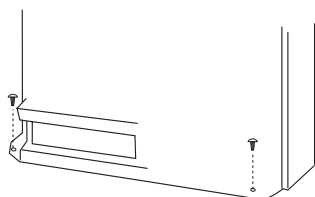

Figure.3
- Remove the front panel, then use two fastening screws to fix the unit on the floor. As Figure 3 shown.